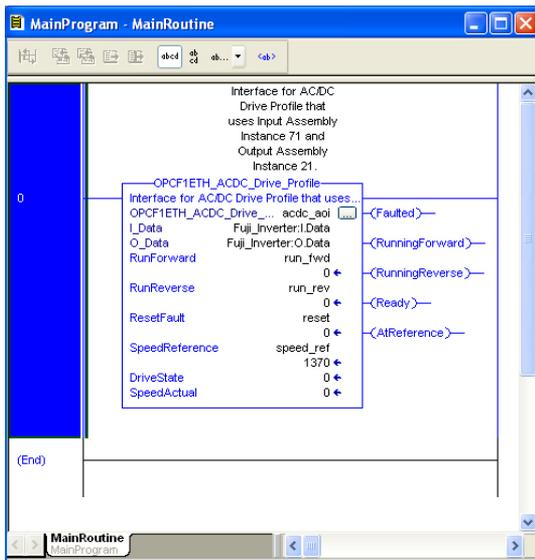

Figure 95: Configure AC/DC Drive Profile AOI
- 10) Edit the add-on instruction according to Figure 95.